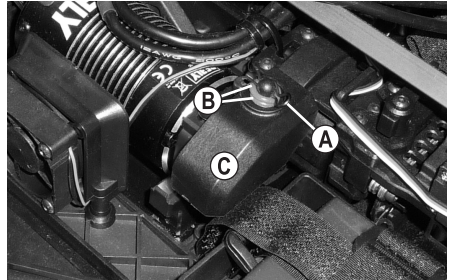

Figure 17
- Replace the protective cover (C). Put the two rubber rings (B) on the retaining pin and reinsert the clip (A), as shown in fig. 17.